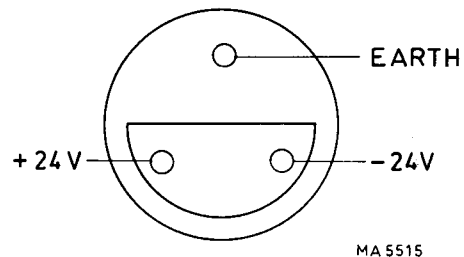

Fig. 18. Probe power outlet
- Check the presence of output voltages as indicated in Fig. 18.